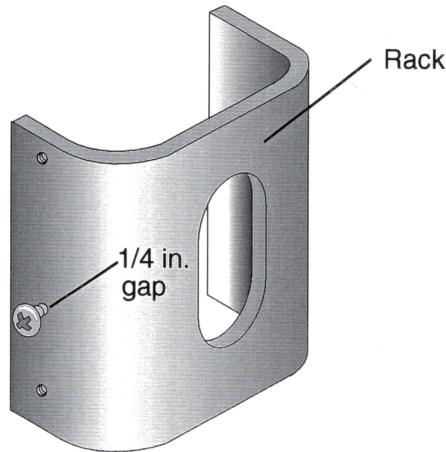

Figure 8 Keyhole Slot Screw with Threads Engaged, and a Gap Adequate to Fit the Mounting Bracket
5. Advance all the screws so that several turns of thread are engaged in the rack, but there is adequate gap between the screw head and the rack frame to fit the thickness of the mounting brackets of the Mi7 equipment; about 1/4-inch (6 mm). See Figure 8.